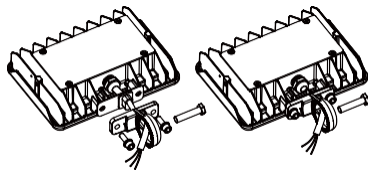

figure 1.5
Step 3: Match the hole of hardware and rubber mat with bracket, pass wire through and fix it with screws(Watch out not to scratch the wire); (figure 1.5)